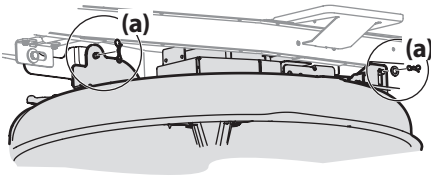

Figure 4-7
5. Remove the remaining bow-tie cotter pins (a) securing the deck to the riding mower, as shown in Figure 4-7.